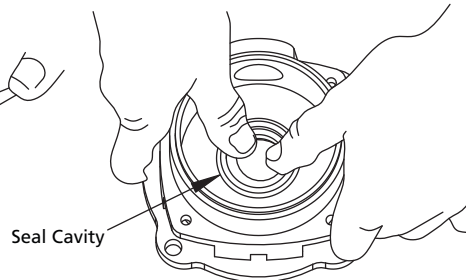

Figure 14 - Press In Seal
5. With thumb pressure, press ceramic seal half firmly and squarely into seal cavity. Ensure polished face of ceramic seal is up. If seal will not seat correctly, remove, placing seal face up on bench. Reclean cavity. Seal should now seat correctly (See Figure 14).